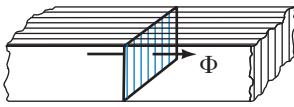

FIGURE 12-43
5. If the section of core in Figure 12-43 is 0.025 m by 0.04 m, has a stacking factor of 0.85, and $B = 1.45$ T, what is Φ in webers?
6. If the core of Figure 12-43 is 3 cm by 2 cm, has a stacking factor of 0.9, and $B = 8 \times 10^3$ gauss, what is Φ in maxwells?